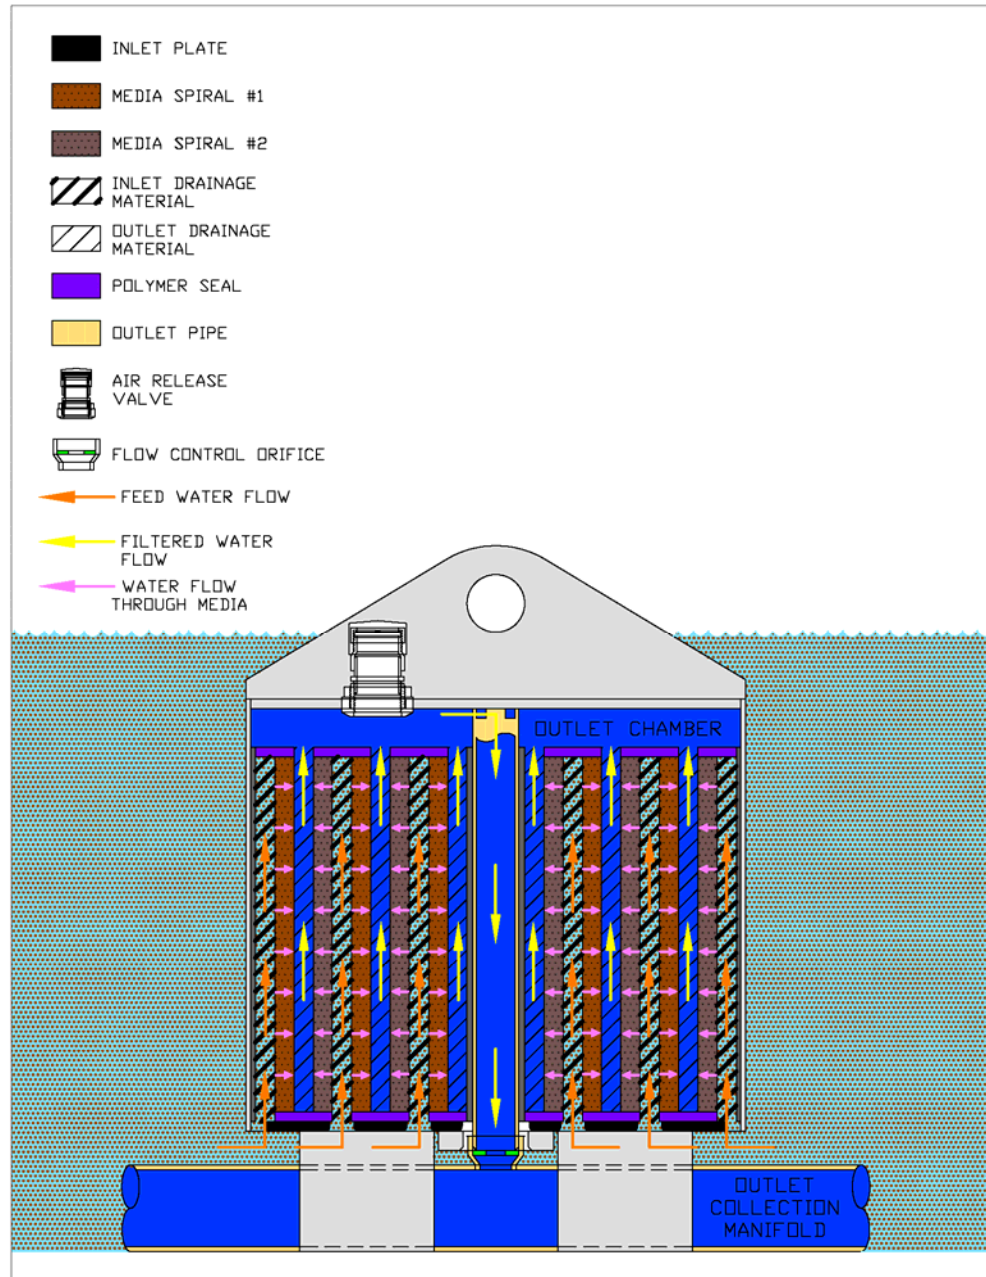

Figure A-2: Normal filter operation
B. Filtration: As water enters the inlet drainage spiral, which is one continuous spiral, the air is exhausted. Water then flows horizontally through the engineered media. Next it flows to the outlet drainage spiral, which is also one single spiral of outlet material. The filtered water then flows vertically to the outlet chamber located on the inside top of the filter. Finally, the filtered water flows to the center outlet drain and out through the outlet manifold below the inlet plate. (Figure A-2)